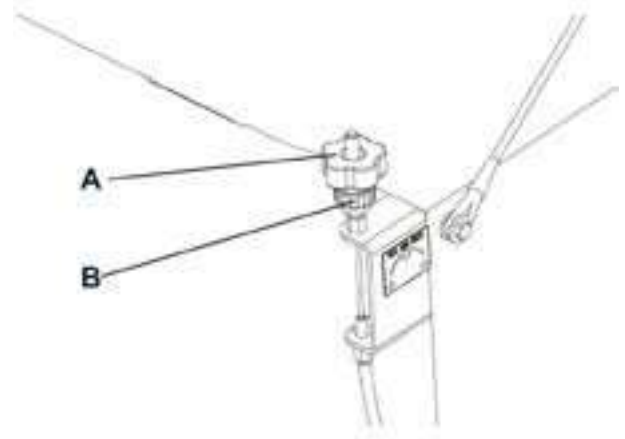

Figure2
- 2) Turn the ignition key (71) to "0".
- 4) Loosen the knob (A, fig. 2) on the left side of the machine.
- 5) Turn the knob (B, fig. 2) and remind that: